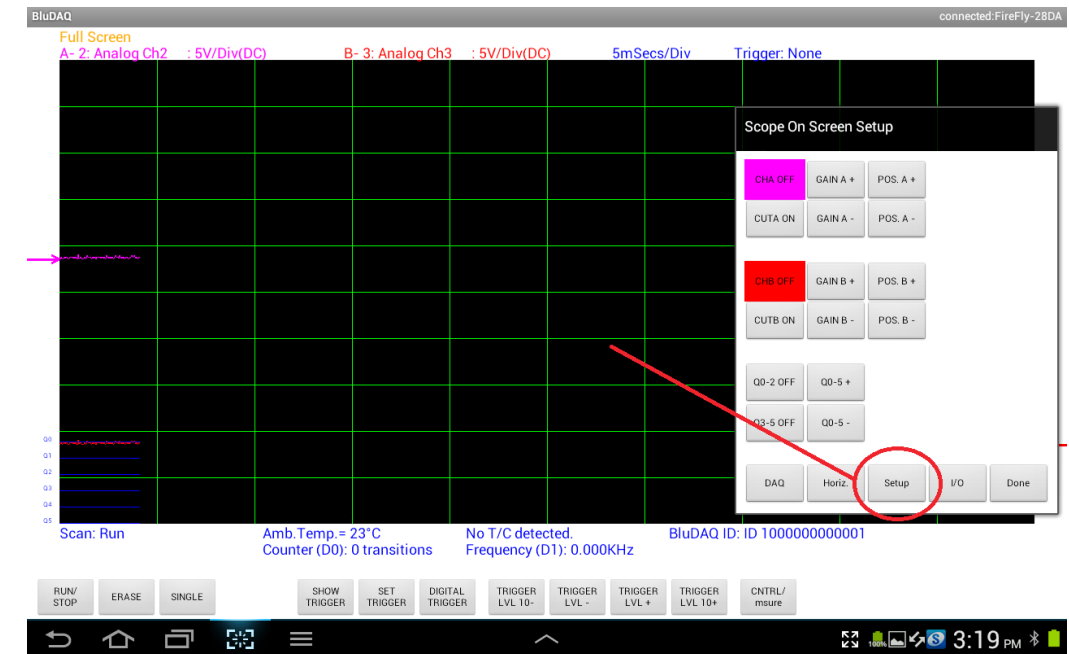

Figure 8: depending on the screen, the **SETUP** position may be different.
23. Double tap on the Android screen. A menu will pop up similar to Figure 8. If it is not the Setup Screen, touch the **SETUP** button which will bring up the Setup Screen.